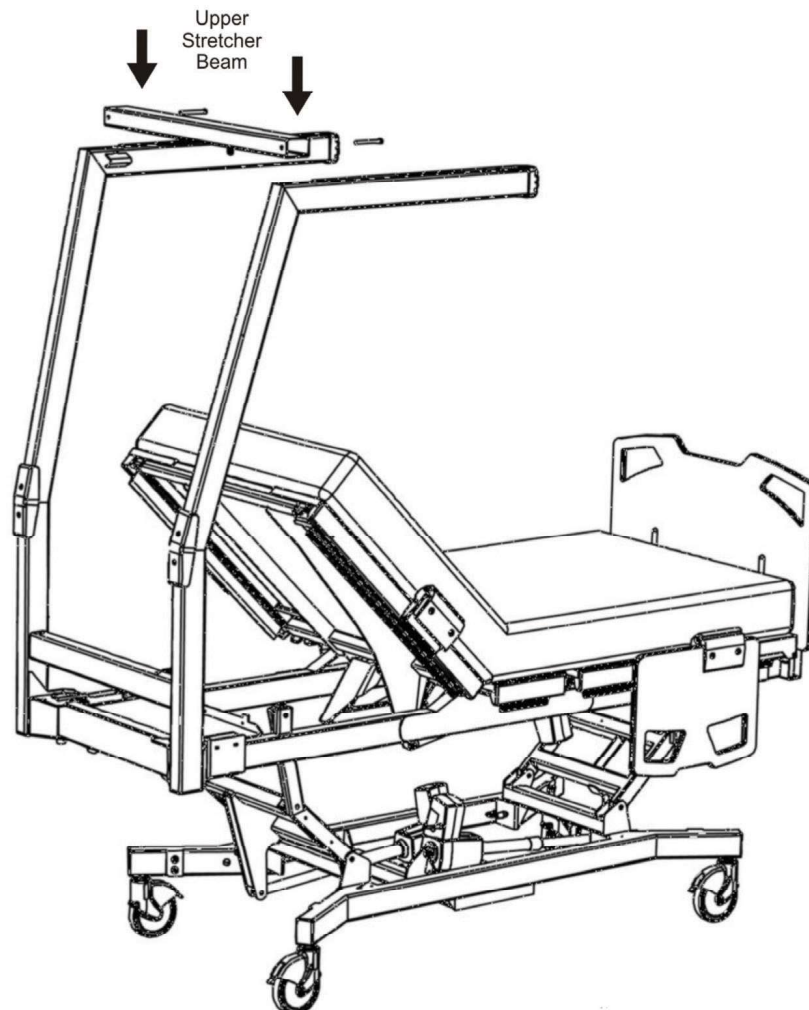

Figure 5
1. Install upper stretcher beam to the Patient Helper Frame, loosely bolt with 3/8" bolts (2) and nylon locking nuts (2) (Figure 5)
5. Slide Carriage Assembly as far rearward as possible to the head end of bed. Tighten the upper stretcher nuts from Step 4, Figure 5.